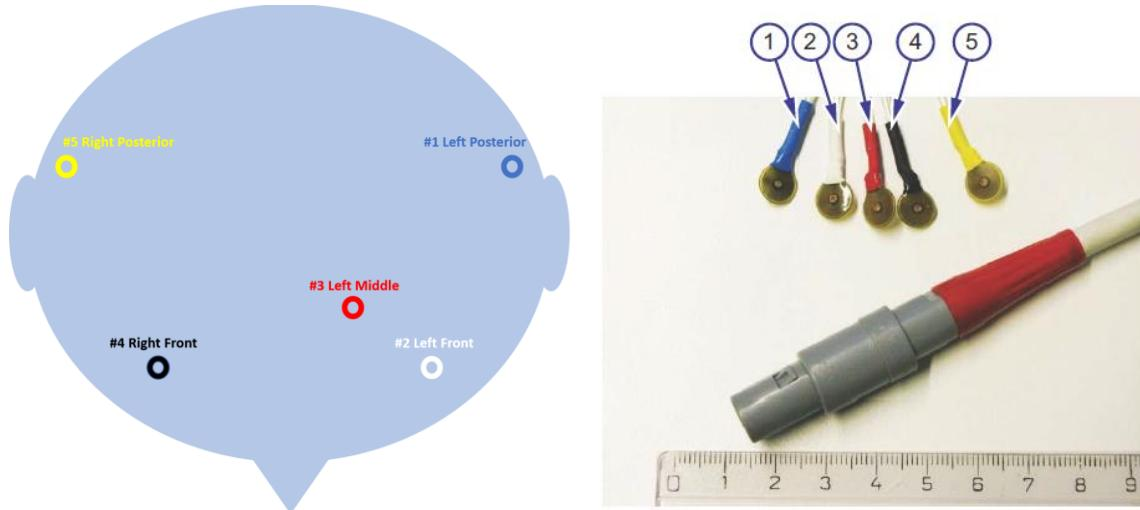

Figure 6: HPI coil order and recommended placement.
- Place the HPI coils in the hardware order shown in Figure 6: